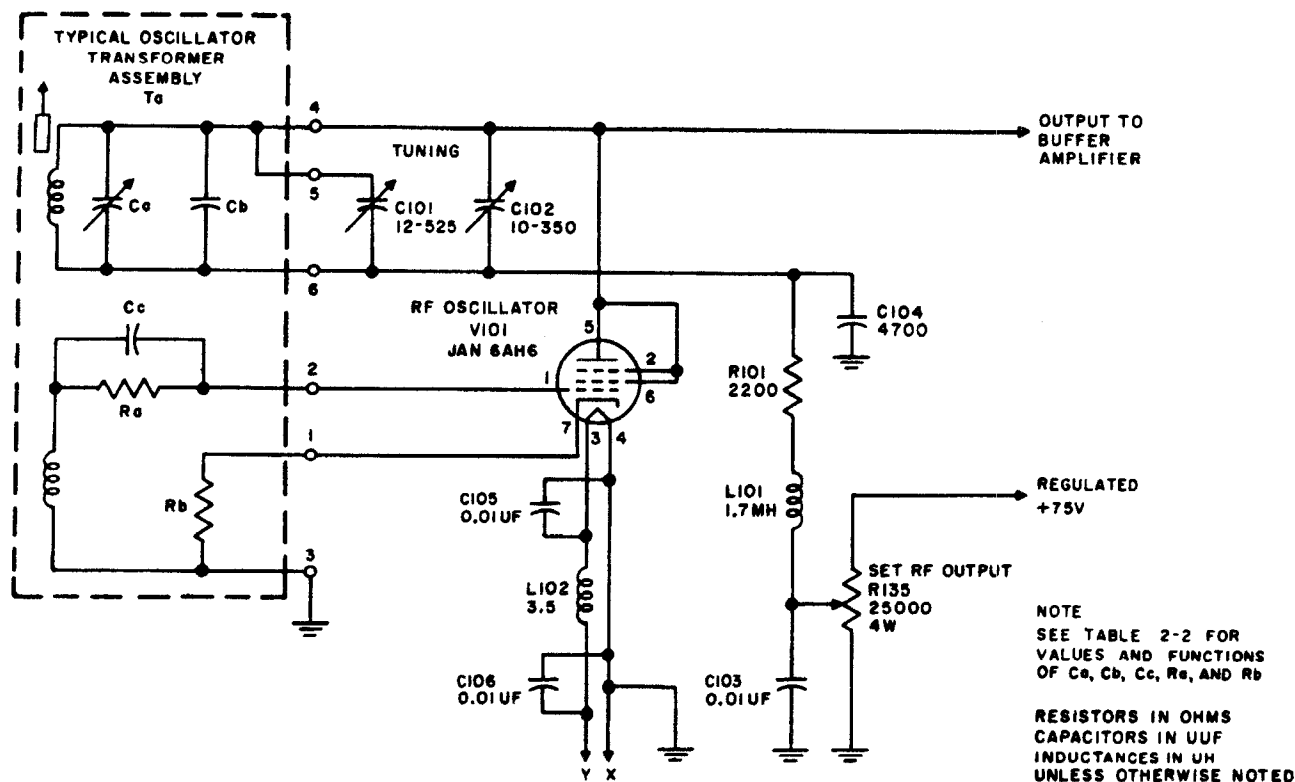

Figure 2-2. RF Oscillator Simplified Schematic
2. RF OSCILLATOR. (See figure 2-2.)